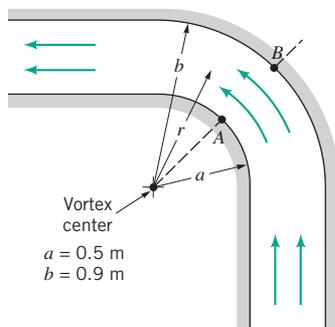

FIGURE P6.37
6.37 The velocity distribution in a horizontal, two-dimensional bend through which an ideal fluid flows can be approximated with a free vortex as shown in Fig. P6.37. Show how the discharge (per unit width normal to plane of paper) through the channel can be expressed as